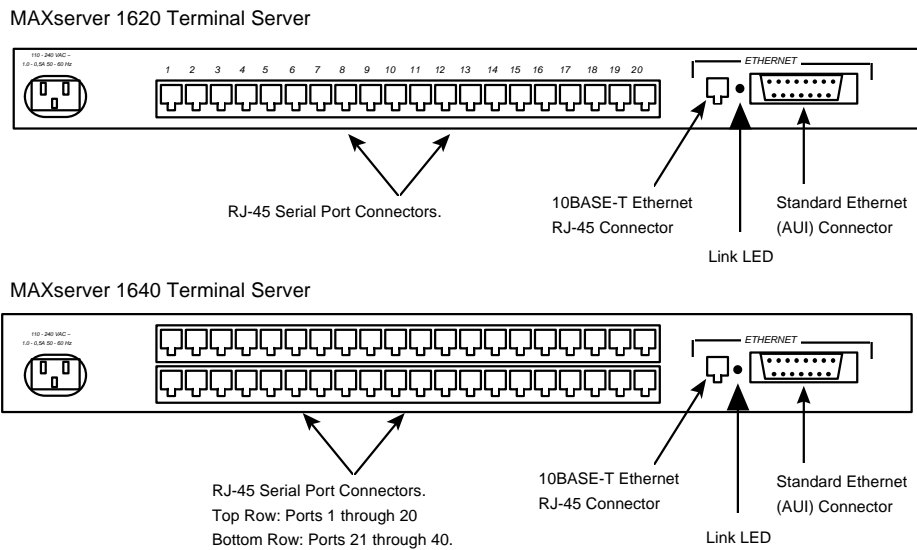

Figure 4 - MAXserver 1620/1640, Rear View
Connect either a 10Base-T or AUI Ethernet network cable to the appropriate connector on the rear of the MAXserver (See Figure 4 for 20-port and 40-port models; **Error! Reference source not found.** for 8-port and 4-port models.) Connect only one Ethernet cable to the unit. When powered up, the unit selects the interface on which it detects network activity.
1. Plug the AC line cord (supplied) into the AC power receptacle on the rear of the unit. (See Figure 4 for the location of the power receptacle.)